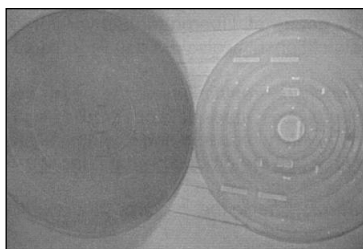

Figure 18
1. The swivel plate can be removed from the base by lifting the round plate off (Fig. 18).